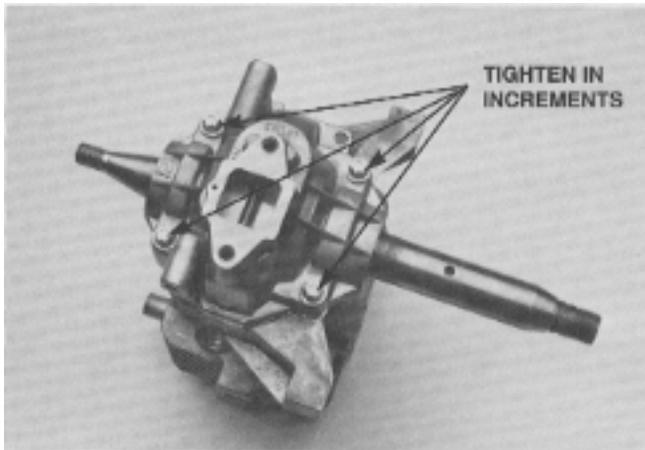

Figure 80
- Tighten the hex washer head screws to a total of 110 in lbs (12.5 N•m), **tightening only 20 in lbs (2.26 N•m) increments at a time** while checking that the crankshaft turns freely (**Figure 80**).